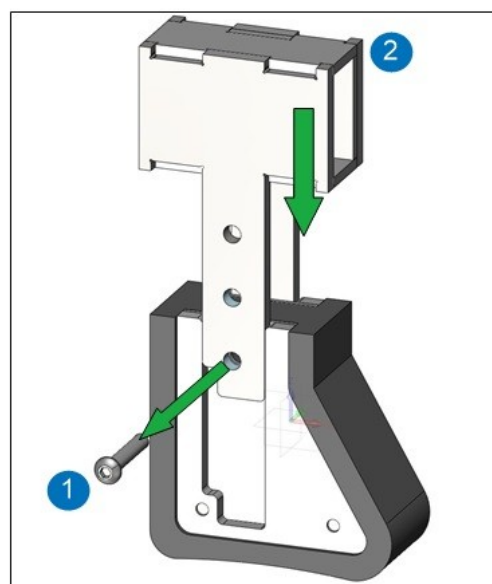

Fig. 16. Pressing foot adjustment.
- Unscrew the adjustment screw (fig. 16 item 1),
- Set the guide (fig. 16, item 2) in the required configuration,